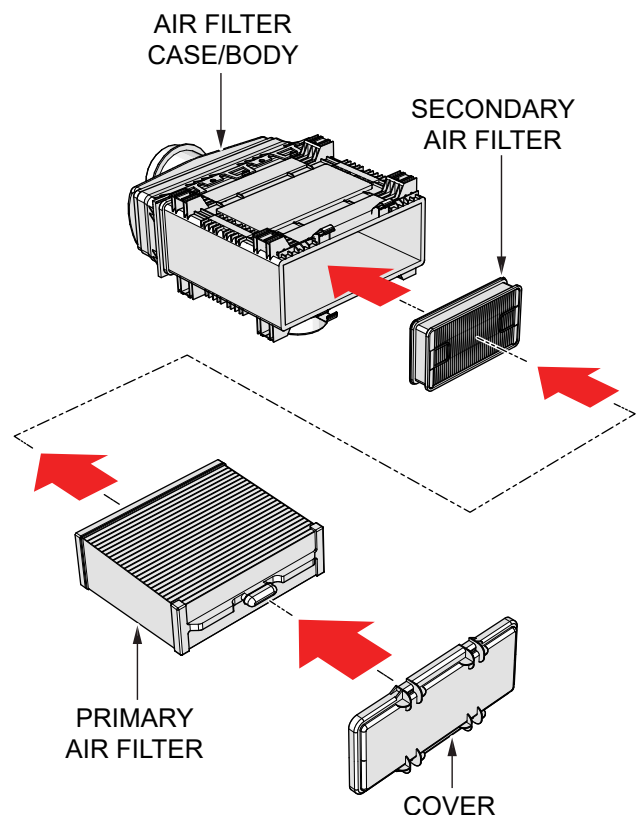

Figure 37. Air Filter Re-Assembly
9. Reinstall the primary and secondary air filter elements back into air cleaner body and secure cover with latches (4) as referenced in Figure 37.